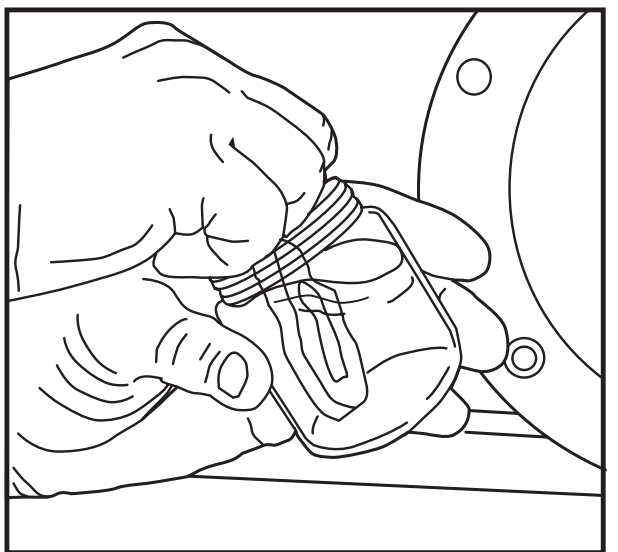
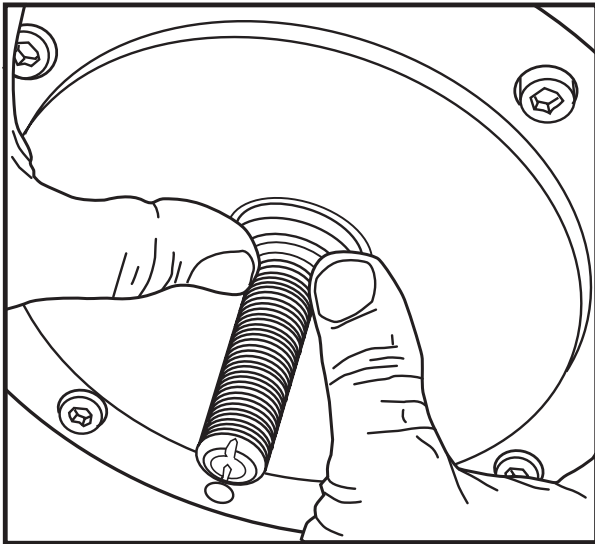

Fig. 22
Fig. 23
14. Coat lower rubber shaft boot portion of carbon half of rotary seal with conservative application of STP or equivalent lubricant. Next immerse seal in small container of Transformer Oil (small baby food jar recommended). See Figure 22. Firmly press seal on shaft using thumbs. Observe that carbon seal is firmly in contact with ceramic portion of seal, and that carbon portion has not slipped out of its metal holder. See figure 23. Install spring for lower seal only. **NOTE:** Discard spring retaining ring provided with the seal, as a groove is machined in the back side of the bronze impeller to locate and retain this seal spring.